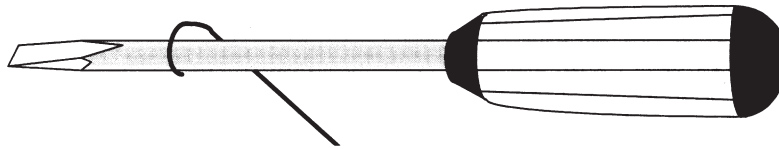

Figure 2.3 Creating a Hook in the Wire
- 6 Using the rounded shaft of the screwdriver, form a hook in the end of each bare copper wire. (See Figure 2.3.)